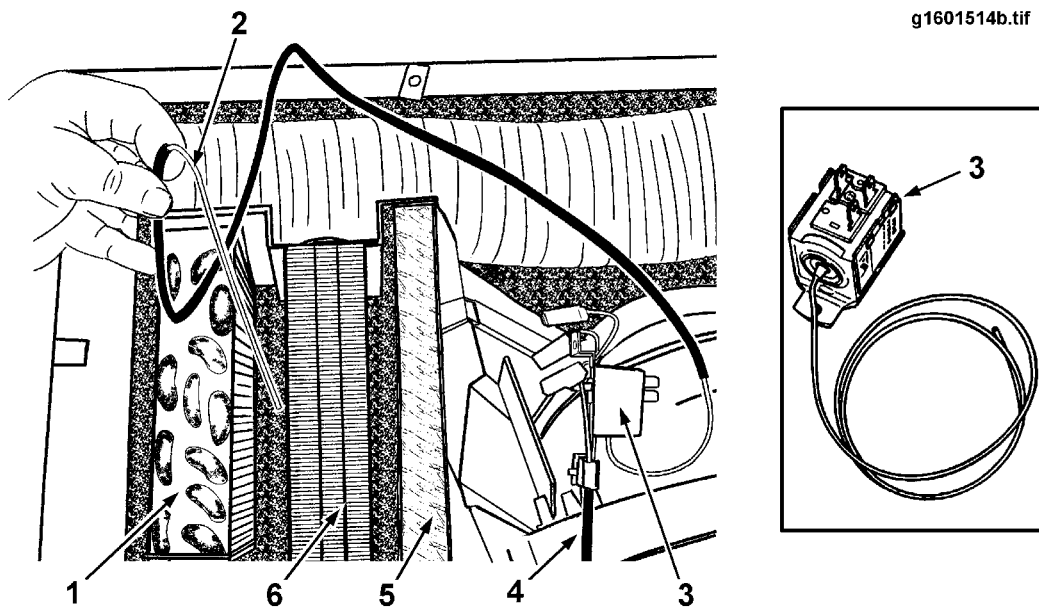

Figure 17 Thermostatic Control Switch
3. Disconnect wiring connectors from the thermostatic control switch (Figure 17).
1. Carefully insert the end of the capillary tube into the evaporator core (Figure 17). Do not insert in the same hole as removed. Insert nearby to provide good contact with the fins.